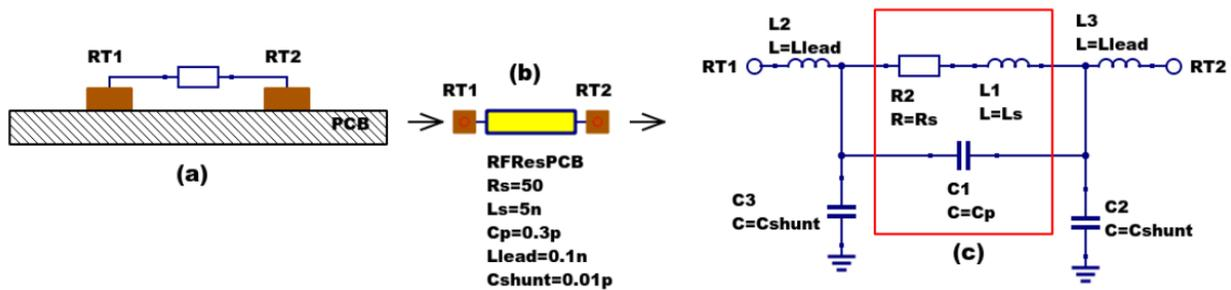

Figure 2 - PCB mounted resistor: (a) axial component mounting, (b) Qucs symbol and (c) equivalent circuit model.
The schematic symbol,  $I/V$  equation and parameters of the Qucs linear resistor model are shown in Figure 1. In contrast to this model Figure 2 illustrates the structure of a printed circuit board (PCB) mounted metal film (MF) axial RF resistor (a), its Qucs schematic symbol (b) and its equivalent circuit model (c). A thin film surface mounted (SMD) resistor can also be represented by the model shown in Figure 2 (c).
At signal frequencies where the largest dimension of an axial or SMD resistor is less than approximately 20 times the smallest signal wavelength a resistor can be modelled by a lumped passive circuit consisting of a resistor **Rs** in series with a small inductance **Ls** with the combination shunted by parasitic capacitor **Cp**. In Figure 2 **Rs** is the nominal value of resistor at its parameter extraction temperature **Tnom**, **Ls** represents the inductance associated with **Rs** where the value of **Ls** is largely determined by the trimming method employed during component manufacture to set the value of **Rs** to a specified tolerance. Similarly, capacitor **Cp** models a parasitic capacitance associated with **Rs** where the value of **Cp** is a function of the physical size of **Rs**. At RF frequencies it is important, for accurate operation, to add lead parasitic elements to the intrinsic equivalent circuit model shown within the red box draw in Figure 2. In Figure 2 **Llead** and **Cshunt** represent resistor series lead inductance and shunt capacitance to ground respectively.
A typical set of model parameters for a 51 Ω 5 % MF axial resistor are (1) **Ls = 8nH**, **Cp = 1pF**, **Llead = 1nH** and **Cshunt = 0.1pF**. Illustrated in Figure 3 is a basic S parameter test bench circuit for measuring the S parameters of an RF resistor over a frequency range 1 MHz to 1.3 GHz. This example also demonstrates how the real and imaginary parts of a resistor model impedance can be extracted from S parameter simulation data. The graphs in Figure 3 clearly demonstrate that the impedance of the typical MF RF resistor described in previous text and modelled by the equivalent circuit shown in Figure 2 is a strong function of frequency at higher frequencies in the band 1 MHz to 1.3 GHz.
Figure 8 - Qucs device model parameter extraction system applied to a nominal  $47 \Omega$  resistor represented by the subcircuit model illustrated in Figure 2 (c). Fixed model parameter values:  $R_s = R_m = 47.3 \Omega$ ,  $C_{shunt} = 0.08 \text{pF}$ ; Optimised values:  $L_s = L = 10.43 \text{nH}$ ,  $L_{lead} = LL = 1.47 \text{nH}$ ,  $C_p = C = 0.69 \text{pF}$ . To reduce simulation time the ASCO cost variance was set to  $1e-3$ . The ASCO method was set to DE/best/1/exp.
Figure 13 - Qucs device model parameter extraction system applied to a nominal 100  $\Omega$  SMD resistor represented by the subcircuit model illustrated in Figure 2 (c).
Listed below is an example Verilog-A code model for the RF resistor model introduced in Figure 2 (c). Due to the limitations of the Verilog-A language subset provided by version 2.3.4 of the "Analogue Device Model Synthesizer" (ADMS)4 inductors **Ls** and **Lead** are modelled by gyrators and capacitors with values identical to **Ls** or **Lead**.